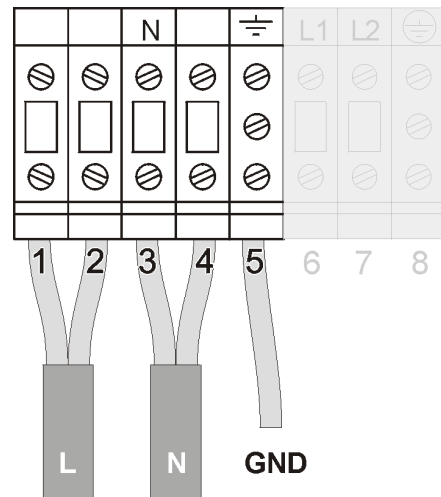

Figure 15a. Output cable splitting for 8/10kVA 120V 2-wire
10. Connect the ground wire to terminal 5. Ground connection is essential! See figure 15a.